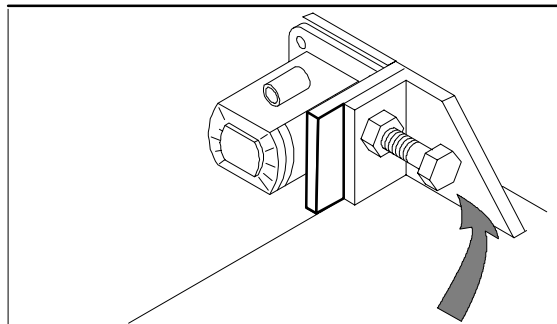

Fig.4.
3. Adjust chain tightening screw to its minimum position. See fig.4.